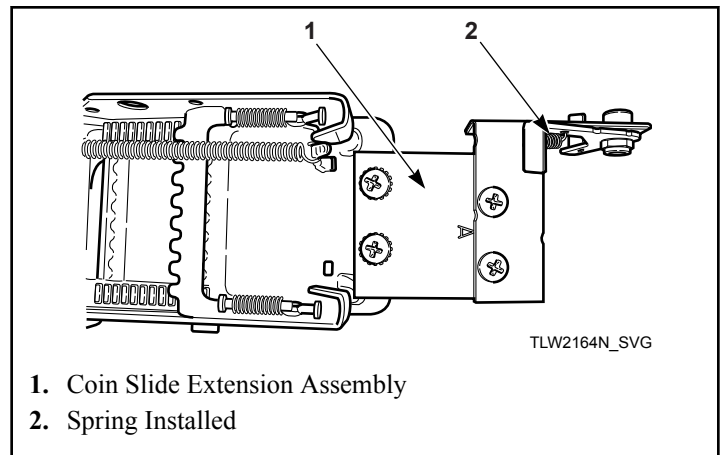

Figure 27
6. Install coin slide extension assembly onto top of coin slide using two remaining screws and lockwashers. Place lockwasher under head of screws, above bracket "A". Refer to *Figure 27*.
3. Install slide extension onto top of coin slide using two screws. Refer to *Figure 27*.